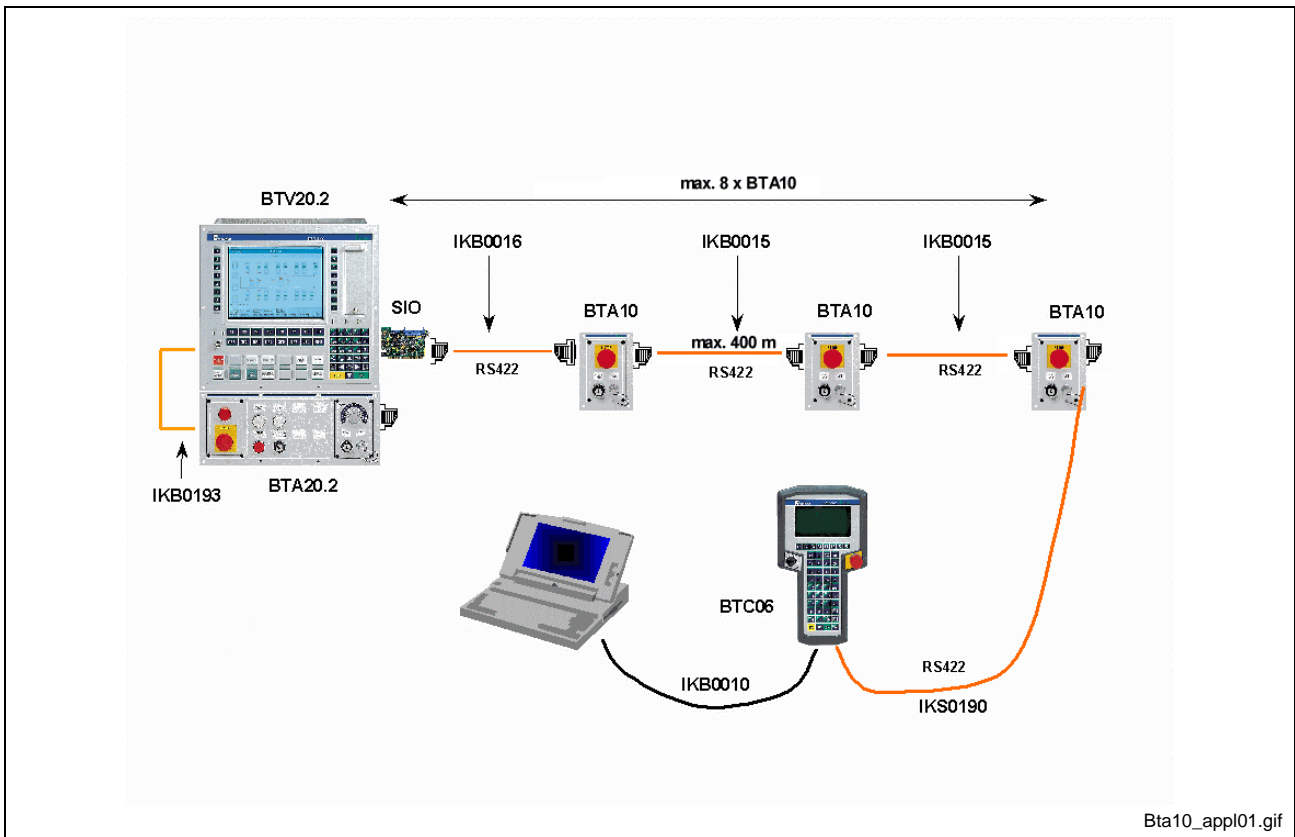

Figure 6-4: Typical application with BTV/BTA20 and BTC06
- Figure 6-4: Typical application with BTV/BTA20 and BTC06 6-4